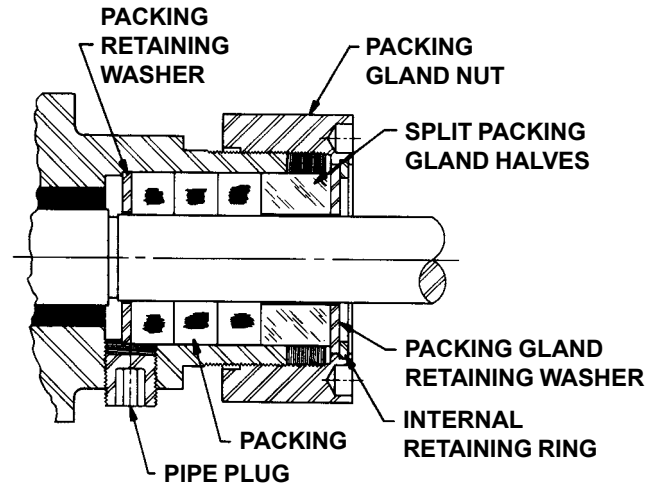

FIGURE 4
6. **REMAINING DISASSEMBLY PROCEDURE** for the Series 724 packed pump. (Refer to Figure 4).
3. REASSEMBLY OF SERIES 724 (Refer to Fig. 4).